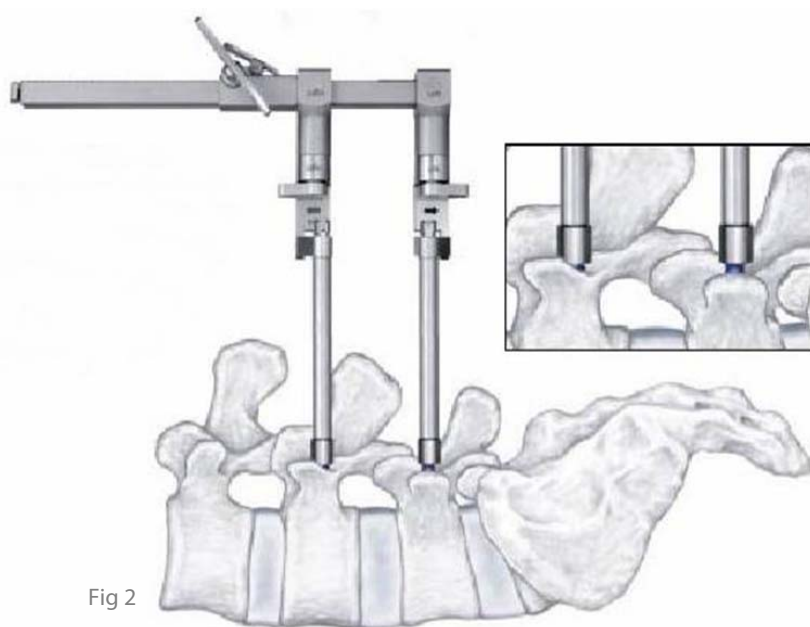

Fig 2
- Distraction can be applied between pedicle screw heads using a lateral distractor (Fig 2).